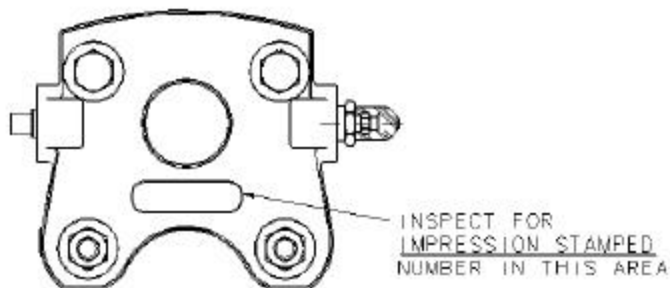

FIGURE 1 – INSPECTION OF BRAKE CYLINDER HOUSING
- 2) If a manufacturing date from 8/99 to 11/99 is observed, further inspect the brake assembly cylinder as shown in Figure 1 for evidence of an **impression stamped** number in the area reserved for the casting heat lot number.
Note: This process may be facilitated by reviewing the aircraft maintenance records for all type certificated and kit aircraft using the products referenced above. If brake products have been purchased and installed on the aircraft between 08/99 and 11/99 then it may be possible that an affected part was involved. If so, remove any fairings in accordance with the airframe manufacturer's maintenance instructions to gain access to the brake assembly and inspect for the MFG DATE (see instruction A2 above and Figure 1 below).
- 4) If a manufacturing date between 8/99 to 11/99 is observed, further inspect the brake assembly cylinder as shown in Figure 1 for evidence of an **impression stamped** number in the area reserved for the casting heat lot number.